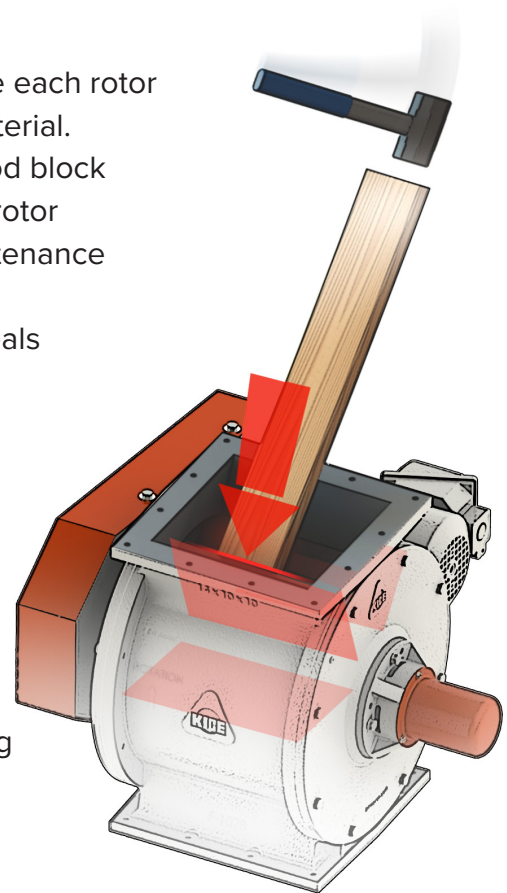

FIGURE 4
- With the airlock chain not attached, use a soft probe (wood block or brass rod) and mallet to turn the rotor (Figure 4). If the rotor turns freely, the inspection is complete. Refer to the maintenance section of this manual if chain needs disconnected.